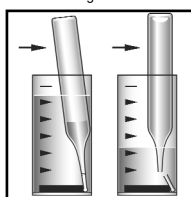

Figure 3
4. **Immediately** place the CHEMet ampoule, tip first, into the sample cup. Stir briefly to mix the contents of the cup, then snap the tip. The ampoule will fill leaving a bubble for mixing. Fig. 3